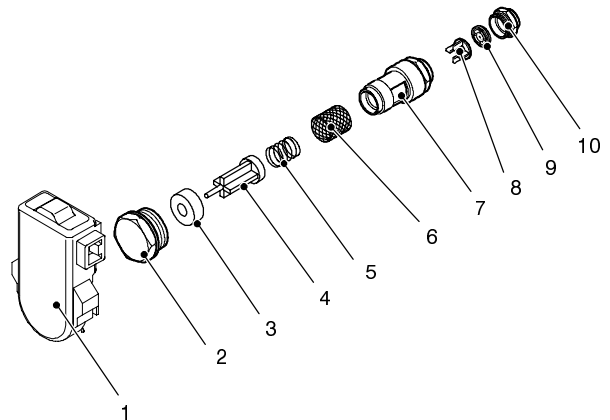

Fig. 59
When the flow rate through the d.h.w. circuit reaches about 2,5 litres/min', the float 4 (Fig. 59) is drawn towards the right.
### 14.2 Nomenclature and location of parts (Fig. 59)
- 4 Unscrew the plug 2 (Fig. 59) and extract the flow switch group.
- 5 To remove the filter from the flow switch group separate the body 7 from the plug 2 (Fig. 59) by unscrewing it.
**Attention: the ring 3 (Fig. 59) has a magnetic polarity and must be correctly coupled with the spindle of the float 4.**
- 2 Unscrew the threaded ring 10 (Fig. 59) and remove it from the body 7.